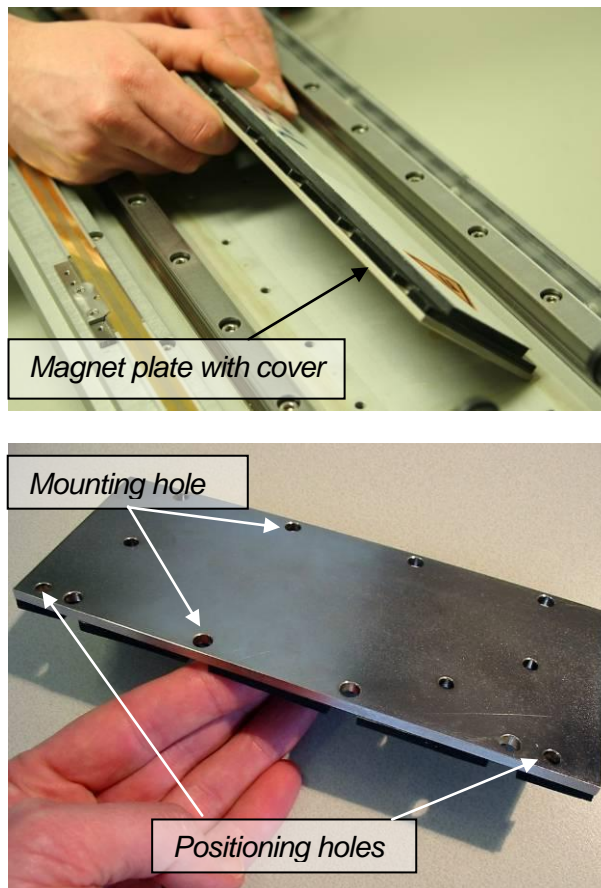
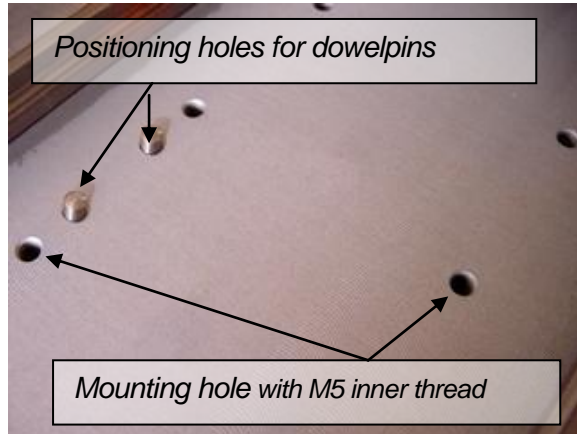

Figure 9: Magnet plate, details
Figure 11: Mounting frame, detail
2. Apply dowel pins for the positioning holes in the mounting frame (see Figure 11: Mounting frame, detail). Choose the holes according to the position of the accurate $\varnothing 5$ positioning holes in the magnet plate (see Figure 9: Magnet plate, details)
3. Take care that magnet plate is well orientated. Finally all magnet plates should be orientated in an equal direction. For example, all magnet plates could be placed in such a way that the dowel pin holes are directed in the right upper corner (see Figure 11)